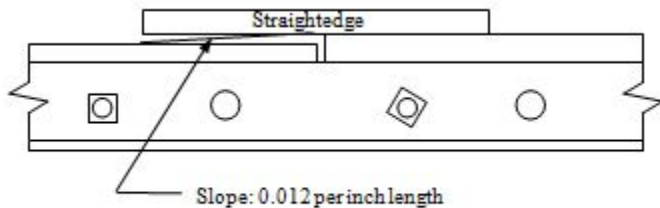

Figure 105B *Marking Joints for Length of Ramp*
3. Determine the length of the weld on the low rail by dividing the measurement (in thousandths of an inch) in step 2 by 0.012 inch. (See Figure 105B)